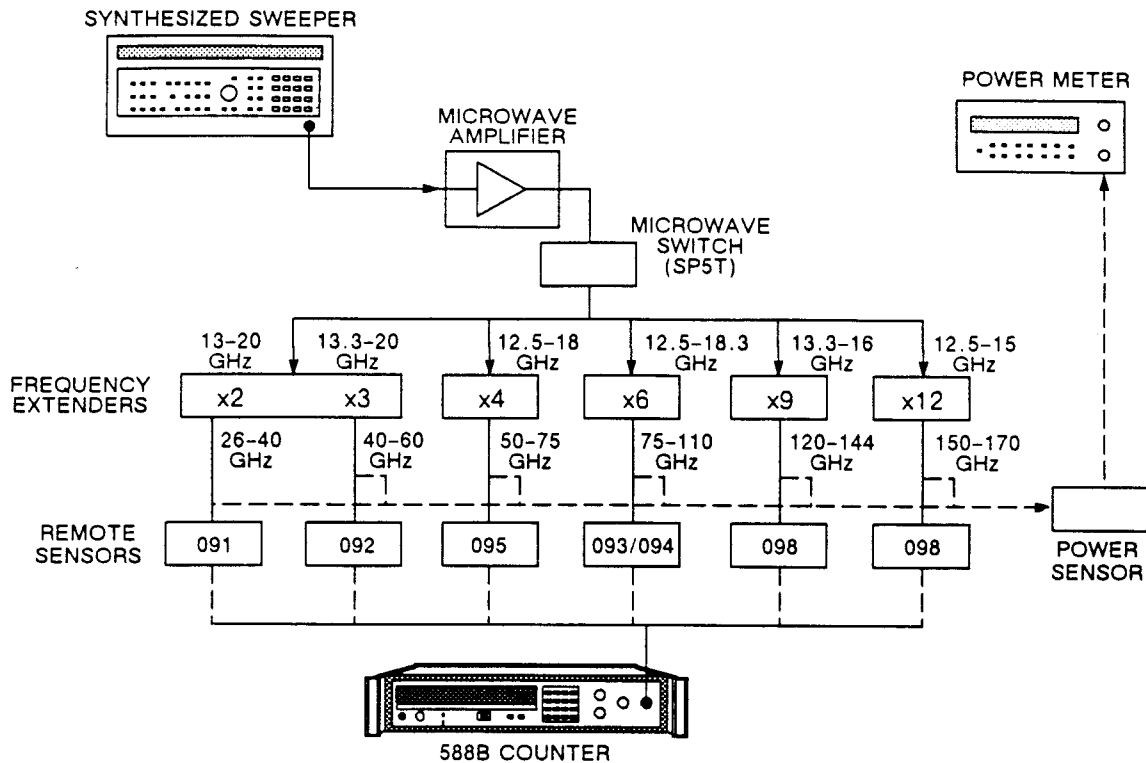

Figure 11-4. Range and Sensitivity Test Setup.
1. Connect equipment as shown in Figure 11-4.